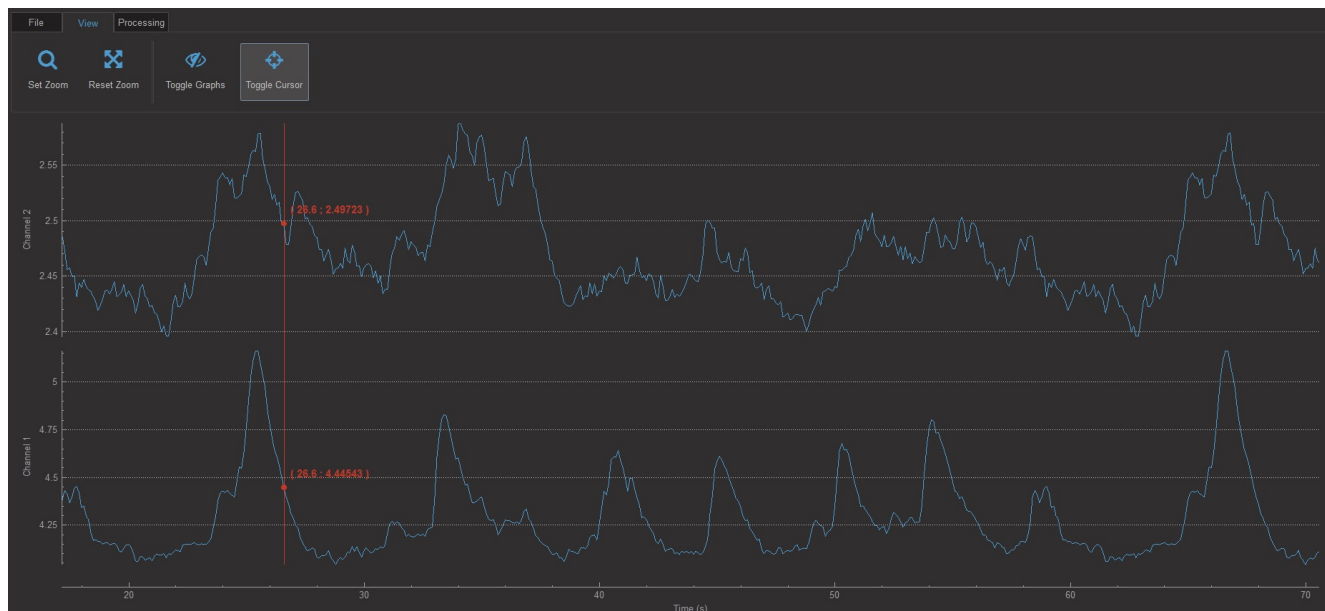

Figure 4.13: Photometry Analysis Module Interface
- The **Toggle cursor** button adds a cursor to the graphs that shows local coordinates of time and intensity, as displayed in red on figure 4.13.